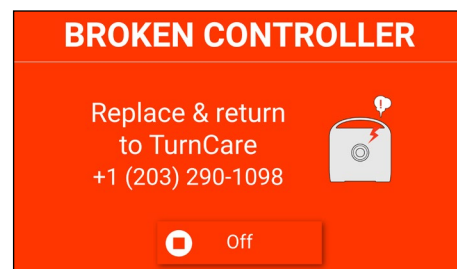

Figure 40. Broken Controller alert screen
1. If the Guardian System 2.5 detects a controller malfunction that is interfering with therapy, it will alert the user. The controller must be replaced immediately and returned to TurnCare. (Fig. 40)